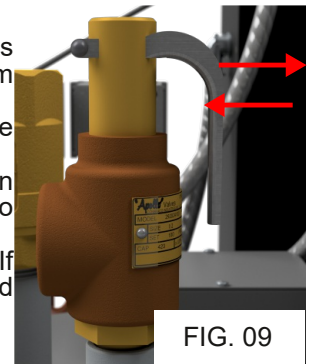

FIG. 09
- **Tecmark Controls (Fig. 09):** Turn the black knob of the operating pressure switch clockwise to increase the pressure and counterclockwise to decrease the pressure.